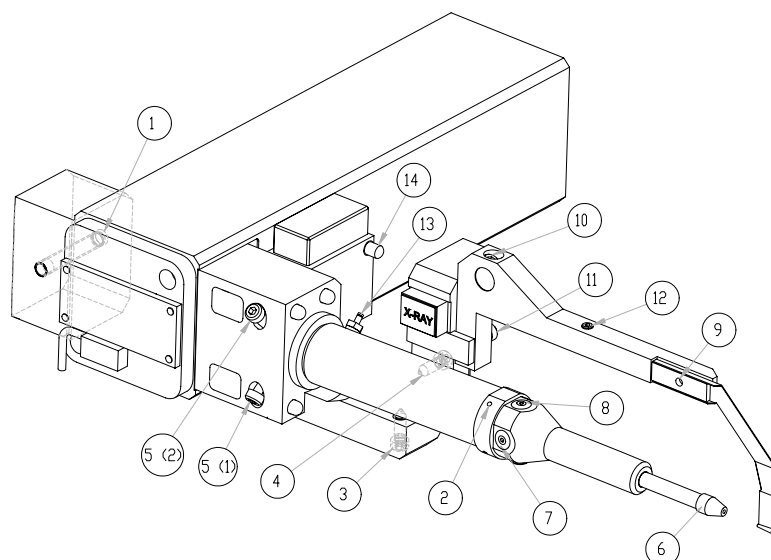

Figure 9.10.1 Adjustment screws of Enhance Ultra
5. Remove the Enhance ULTRA front face panel. Using a 5 mm Allen key completely undo the screw 1 (see Figure 9.10.1) and lift off the front face panel.
6. Fully release the three grub screws near label 2 (see Figure 9.10.1) and pull off the collimator
8. Unscrew the optic alignment x tilt, [i.e. screw 5(2)], y tilt [i.e. screw 5(1)] by equal amounts in half turn steps (see Figure 9.10.1).
12. Adjust the height pivot screw 3 (see Figure 9.10.1) and type **card raw on 0.5**. Repeat points 11-12 to give a maximum intensity whilst retaining the sharply defined 45 degree square image.
13. Adjust the tilt screws 5(1) and 5(2) (see Figure 9.10.1) and type **card raw on 0.5**. Place the mouse cursor over the centre of the 45 degree square image. Right mouse click and select **integration at pixel position**. Record the intensity figure from the history window.
7. Fine adjust x tilt screw [i.e. screw 5(1) in Figure 9.10.1]. Type **card raw on 0.5**. Repeat points 6 – 7 until a maximum intensity figure results.
8. Fine adjust y tilt screw [i.e. screw 5(2) in Figure 9.10.1]. Type **card raw on 0.5**. Record intensity of the right hand spot as in point 6 above. Repeat point 8 until a maximum intensity figure results.
1. Remount the collimator by pushing on and tighten the three grub screws near label 2 (see Figure 9.10.1). Note the collimator has a specific orientation with the flat surface at the top.
4. Adjust the collimator x and y adjustment screws 7 and 8 (see Figure 9.10.1). Repeat 3 -4 until the X-ray beam is visible as a single intense circular spot.
7. Fine adjust the collimator x and y adjustment screws 7 and 8 (see Figure 9.10.1). Repeat 6 -7 until the X-ray beam is visible as a single intense circular spot.
11. Re-mount the Enhance ULTRA front face panel and secure using the screw 1 (see Figure 9.10.1).